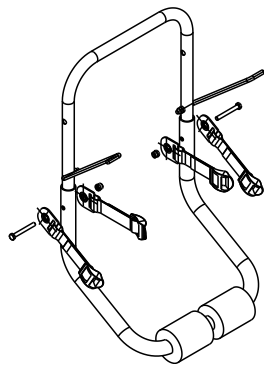

FIG. 1
- Slide middle support into the bottom support and align through holes. (Fig.1)
- Slide buckle assembly onto the M6 x 40 hex head cap screw (smaller screw) and insert the screw through the through hole in the main frame. Then, slide another buckle assembly on the other side. (Fig.1)